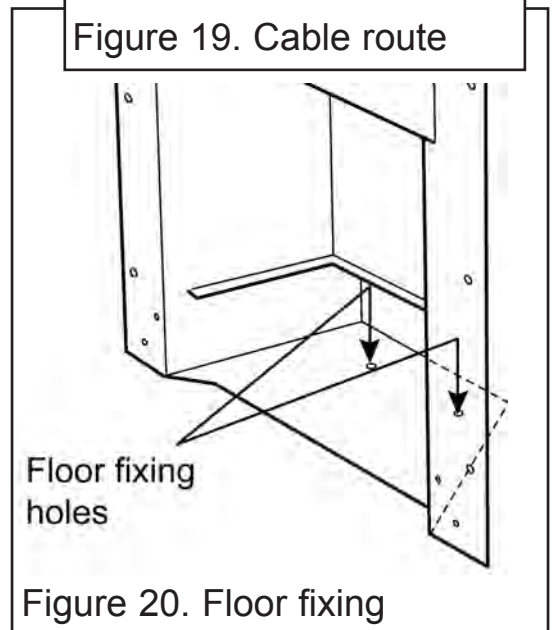

Figure 20. Floor fixing
8. Drill a hole into the fireplace floor through each of the two holes in the base of the convection box using a suitably sized masonry drill for the wall plugs supplied (See figure 20).